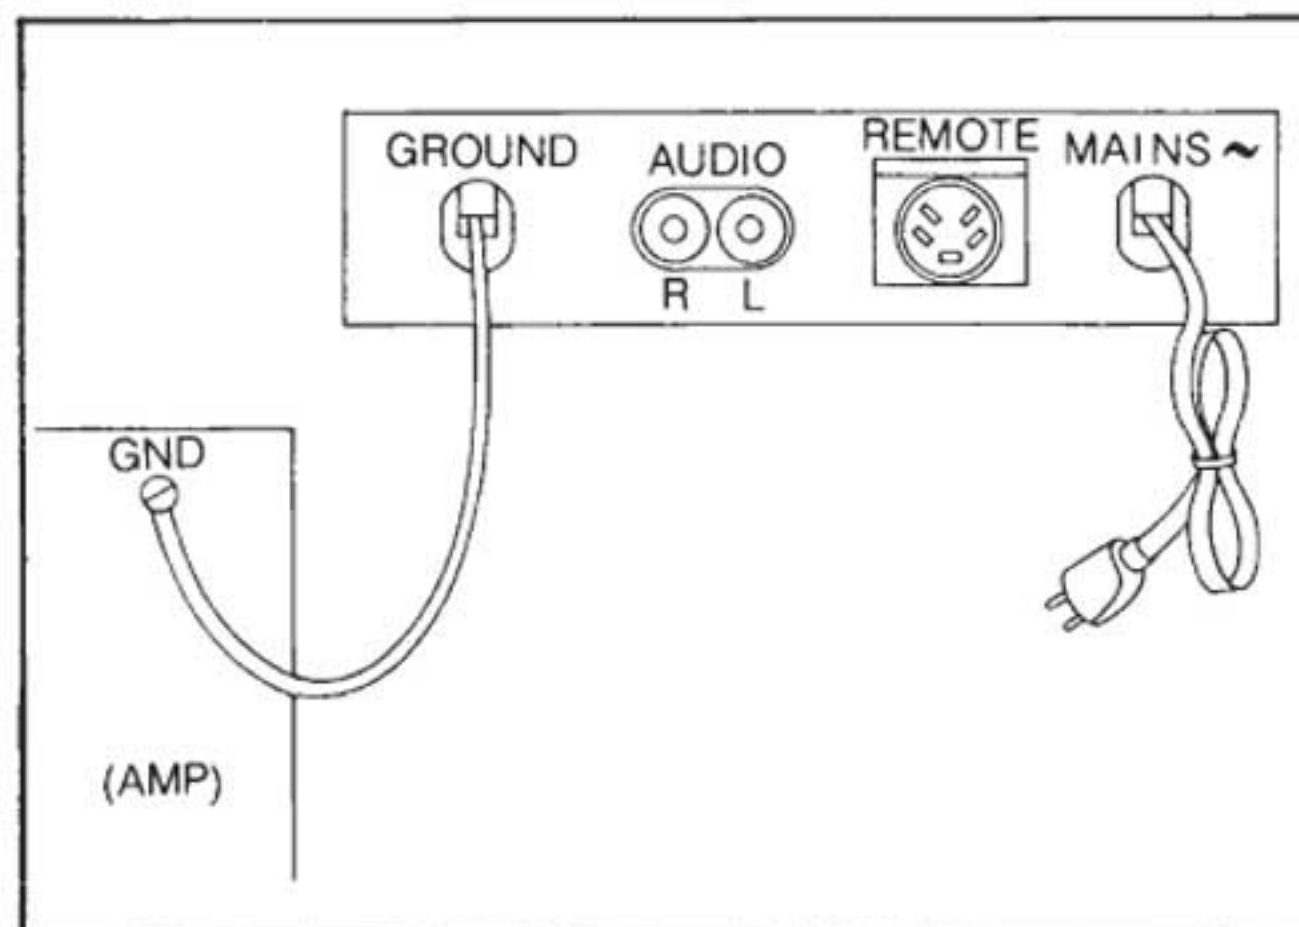

FIG. 5
- A. Using shielded phono cables terminated with RCA phono type plugs, connect corresponding left and right channel output jacks of Accutrac unit (FIG. 5) to magnetic phono input jacks on the preamplifier, integrated amplifier, or integrated receiver.
- B. Connect ground wire (Green or Green-Yellow Wire) to amplifier ground terminal. (FIG. 5)
- A. Insert DIN plug of remote receiver into DIN receptacle located on rear panel of Accutrac unit. (FIG. 5)